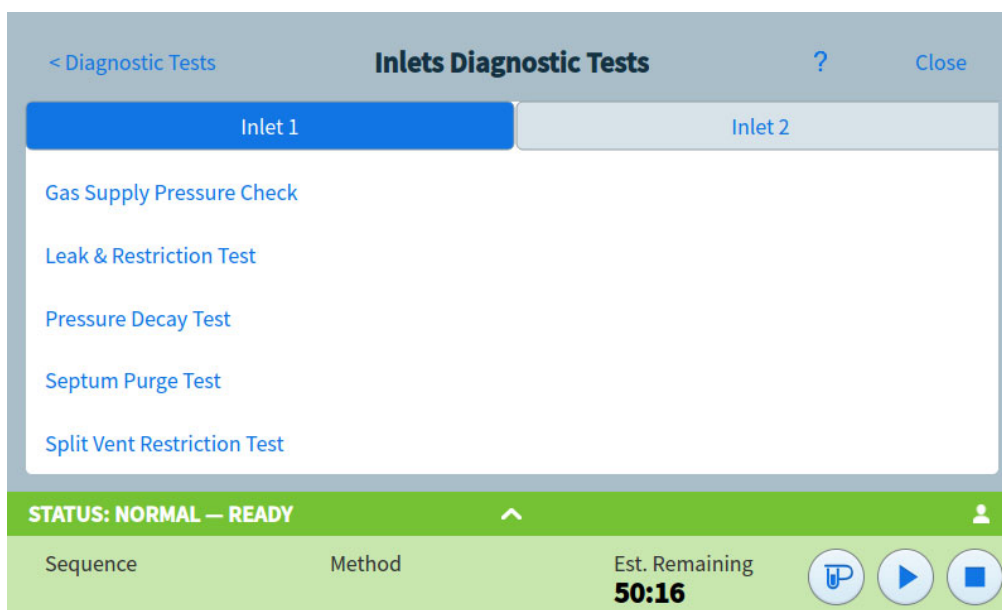

Figure 41. Inlet Diagnostic Tests page
- 3 Select **Inlets**, **Detectors**, or another link, as desired. The corresponding page will appear. For example, selecting **Inlets** brings up the Inlet Diagnostic Tests page. See **Figure 41**.